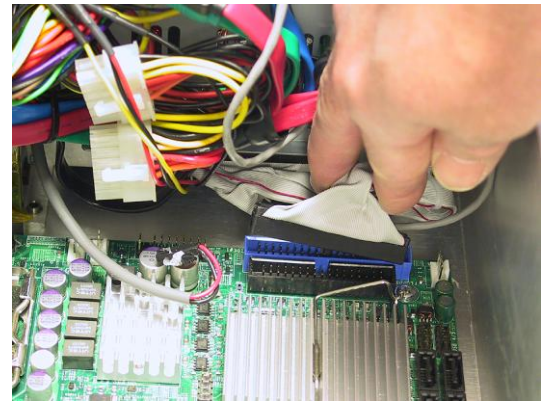

**Figure 5-124**
- 23) Remove the CD Audio In cable from the motherboard as illustrated in Figure 5-124